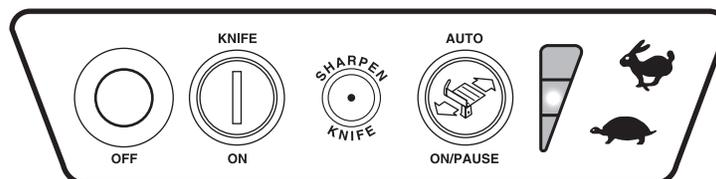

Fig. 10
- Turn the slicer on by pressing the KNIFE ON button (Fig. 10).
- Select one of the three speeds for the PRODUCT TRAY to move back and forth. Press the RABBIT symbol to increase speed; press the TURTLE symbol to decrease speed (Fig. 10). The speed indicator, located to the left of the symbols, shows which speed is selected. You can change the speed at any time.
- Press the AUTO ON / PAUSE button to start slicing (Fig. 10); the PRODUCT TRAY moves back and forth at the speed and at the stroke length you have selected.
- When done slicing, you can stop by pressing either the AUTO ON / PAUSE button or the OFF button (Fig. 10). Pressing AUTO ON/ PAUSE returns the PRODUCT TRAY to the home position (all the way toward you).
The CleanCut™ KNIFE will provide long service in normal food retail or commercial kitchen use. **Sharpen only when necessary; prolonged or too frequent sharpening results in unnecessary KNIFE wear.** The SHARPEN KNIFE indicator light (Fig. 9 or Fig. 10) will come on after a factory-preset number of slicing strokes to indicate when sharpening is needed. This number has been set to represent a typical operation. Your operation may need more frequent sharpening.
Remove the TOP KNIFE COVER and the plastic RING GUARD COVER. Turn the LATCH KNOB counterclockwise and lift the TOP KNIFE COVER and plastic RING GUARD COVER off the slicer (Figs. 5, 6 & 7). Thoroughly wash around the KNIFE and both sides of the outer rim of the KNIFE. Food debris should not be allowed to transfer from the KNIFE to the SHARPENER. Plug in the machine power cord. When SHARPEN KNIFE indicator light is on, press and hold the SHARPEN KNIFE button (Fig. 9 or Fig. 10) with your right hand while pulling the SHARPENER LEVER fully forward with your left hand (Fig. 30). The KNIFE comes on, sharpens for 15 seconds and shuts off. Release the SHARPENER LEVER. The stroke counter will automatically reset and the indicator light will turn off. To sharpen before the SHARPEN KNIFE indicator light illuminates: Follow the directions above, but instead of turning on the motor with the SHARPEN KNIFE button, press the ON button for 15 seconds. Then, release the SHARPENER LEVER and press the OFF button. Unplug the SLICER power cord. Wipe the slicer with a clean damp cloth to remove any grinding particles. Reinstall the plastic RING GUARD COVER and the TOP KNIFE COVER.